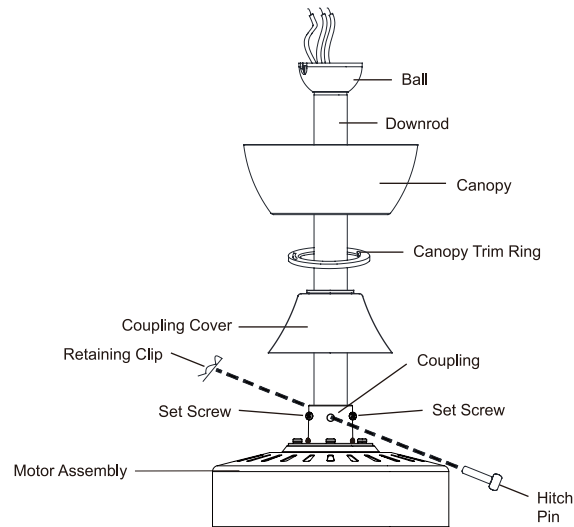

Fig. 9
Step 5. Carefully feed the wires from the coupling on top of the motor assembly up through the downrod. (Fig. 9)
Step 6. Thread the downrod into the coupling on top of the motor assembly until the hitch pin holes in the downrod and the hitch pin holes in the coupling are aligned. Carefully insert the hitch pin through the holes in the coupling and the downrod. (Fig. 9)
Insert the retaining clip through the hole in the hitch pin until it snaps into its locked position. (Fig. 9)
Step 7. Tighten the two set screws in the coupling on top of the motor assembly firmly. (Fig. 9)
Step 8. Carefully slip the coupling cover, canopy trim ring (smooth finished side facing motor body), and canopy onto the downrod. (Fig. 9)